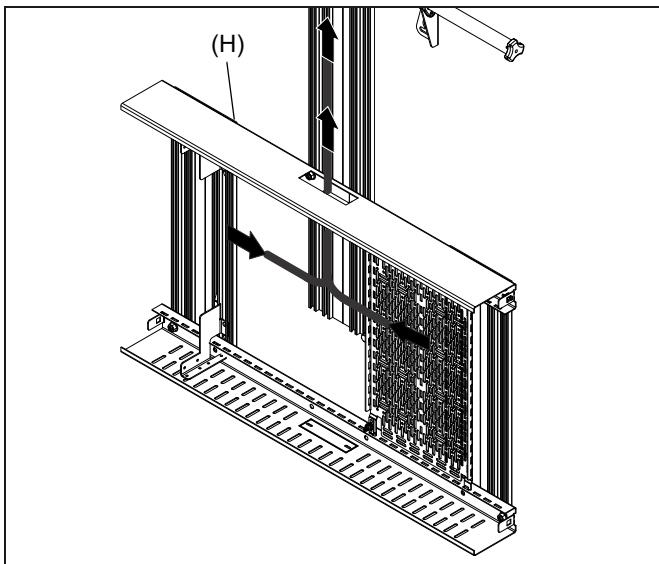

Figure 14
1. Route cables up through the recess at the top of the storage box (H). (See Figure 14)